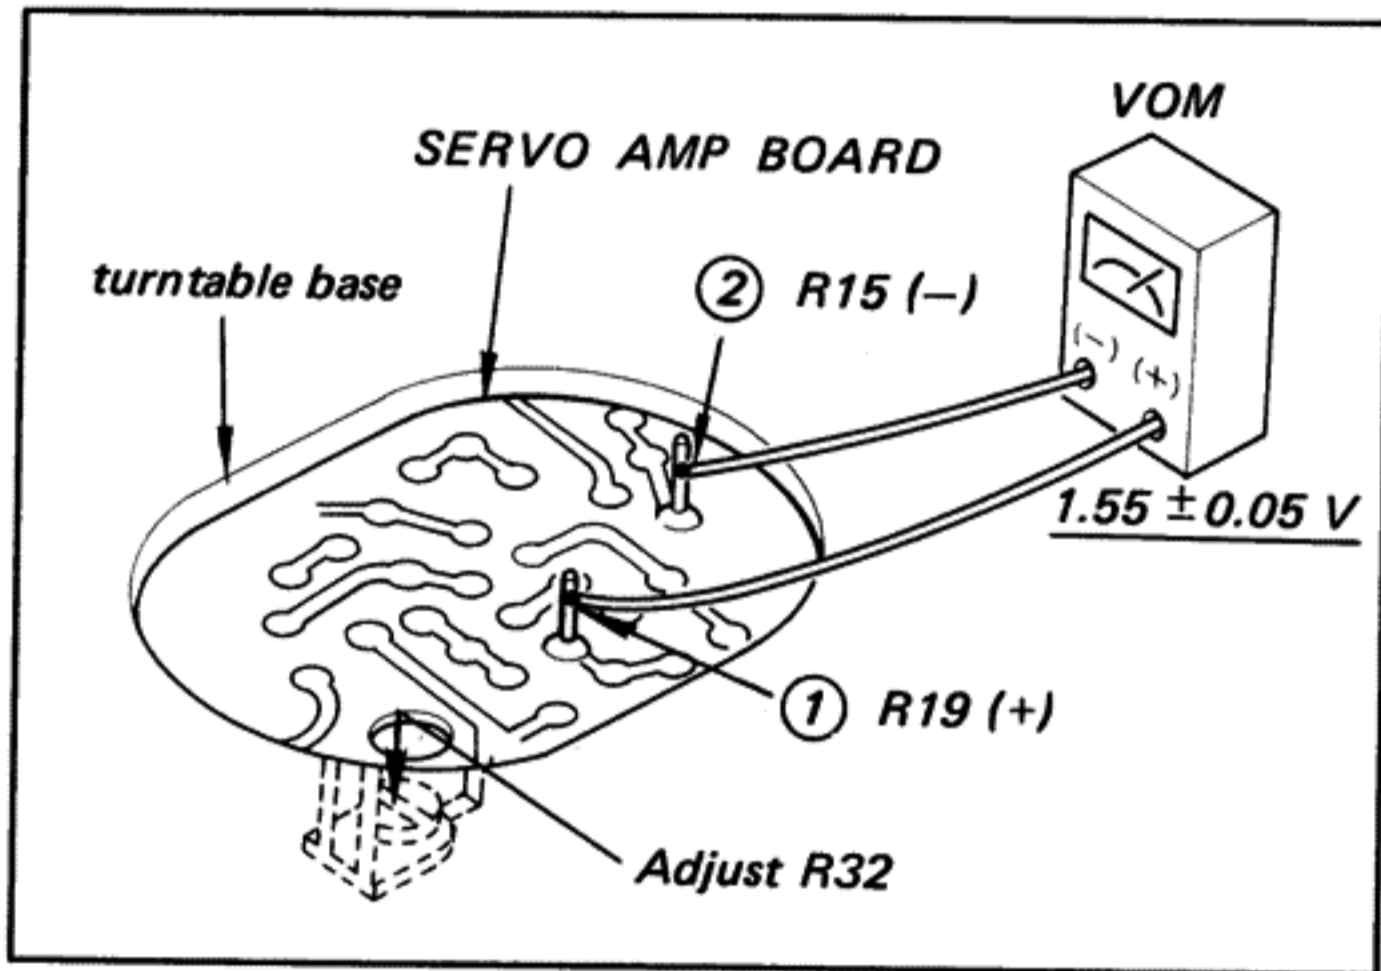

Fig. 3-8. Trigger level adjustment
5. Connect the positive side of VOM to R19 ① and the negative side to R15 ② as shown in Fig. 3-8.
6. Adjust R32 (See Fig. 3-8.) so that the VOM reads 1.55 ± 0.05 V.